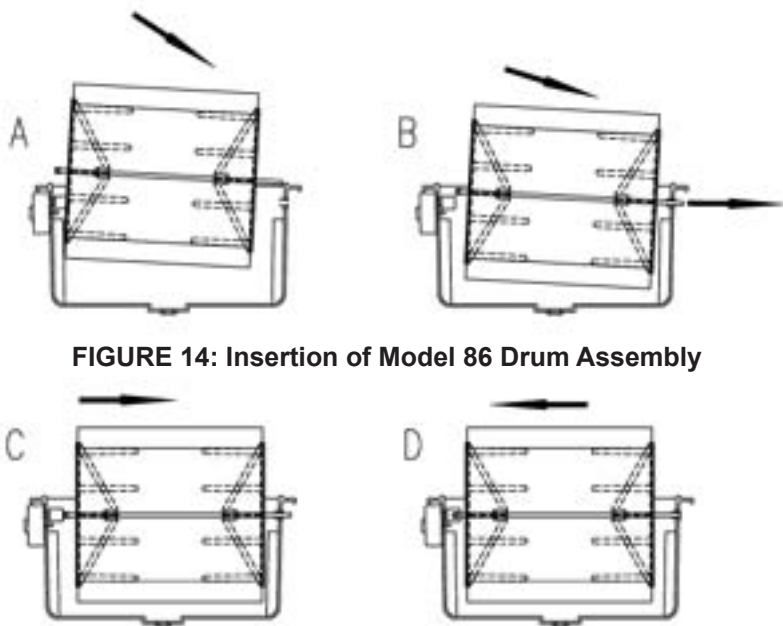

FIGURE 14: Insertion of Model 86 Drum Assembly
1. To install the drum assembly, insert the drum shaft through the evaporator pad and drum ends, then into the round bearing in the side of the pan, as shown in Figure 14, below. (You'll need to apply some force to deflect the retaining spring on the outside of the pan.) Insert the drum shaft into the slotted opening in the motor coupling.